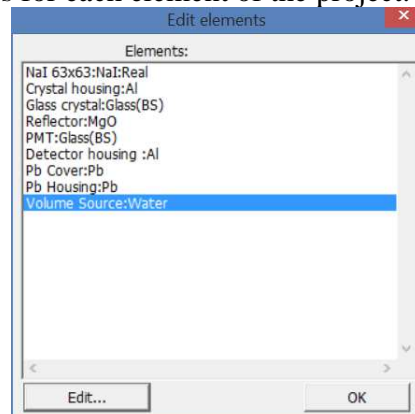

Figure 53.12
7.10 Click the button  in the main toolbar and in the window that appears select menu item **Options-> Elements**. In the window **Edit Elements** that appears (see Figure 53.12), you have to set physical properties for each element of the project. [Section 4.1].